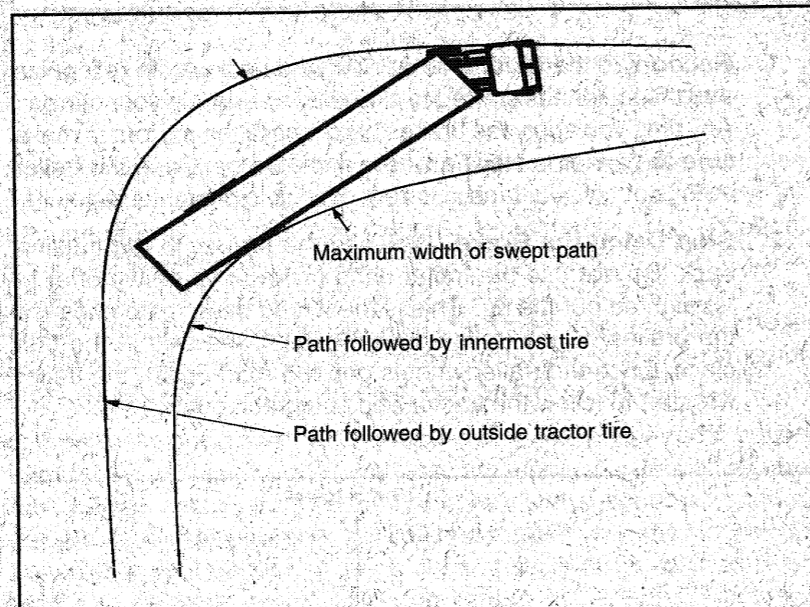
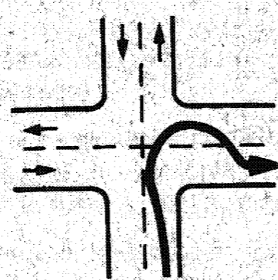

Figure 6-4
Figure 6-5
When a vehicle goes around a corner, the rear wheels follow a different path than the front wheels. This is called “**offtracking**” or “cheating.” Figure 6-4 shows how offtracking causes the path followed by a tractor-semi to be wider than the rig itself. Longer vehicles will offtrack more. The rear wheels of the powered unit (truck or tractor) will offtrack some, and the rear wheels of the trailer will offtrack even more. If there is more than one trailer, the rear wheels of the last trailer will offtrack the most. Steer the front end wide enough around a corner so the rear end does not run over the curb, pedestrians, other vehicles, etc. However, keep the rear of your vehicle close to the curb. This will stop other drivers from passing you on the right. If you cannot complete your turn without entering another traffic lane, turn wide as you **complete the turn** (Figure 6-5). This is better than swinging wide to the left before starting the turn because it will keep other drivers from passing you on the right. If drivers pass on the right, you might collide with them when you turn.
5. Why should you turn as shown in Figure 6-5?